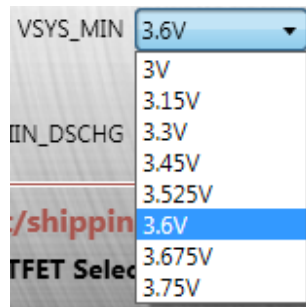

**Figure 14: Setting Voltage Variation**
- The default value is 150mV (see Figure 14).